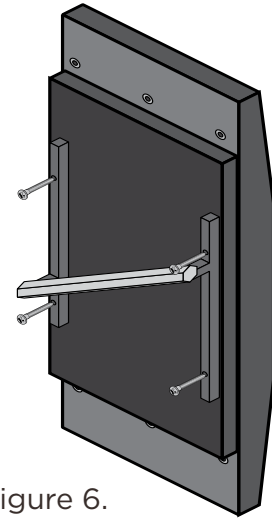

Figure 6.
1. Place handle onto face of speaker as shown in Figure 6 and line up the four holes.
2. Install the (4) pan head screws supplied with the handle. Tighten the screws until they are snug. Take care to not overtighten.